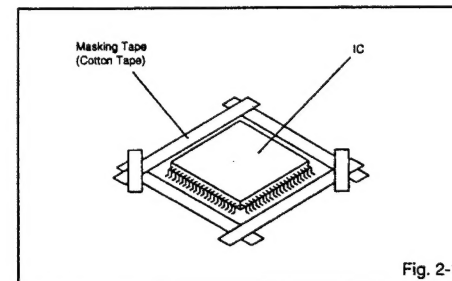

Fig. 2-1
1. Put the Masking Tape (cotton tape) around the Flat Package IC to protect other parts from any damage. (Refer to Fig. 2-1.)